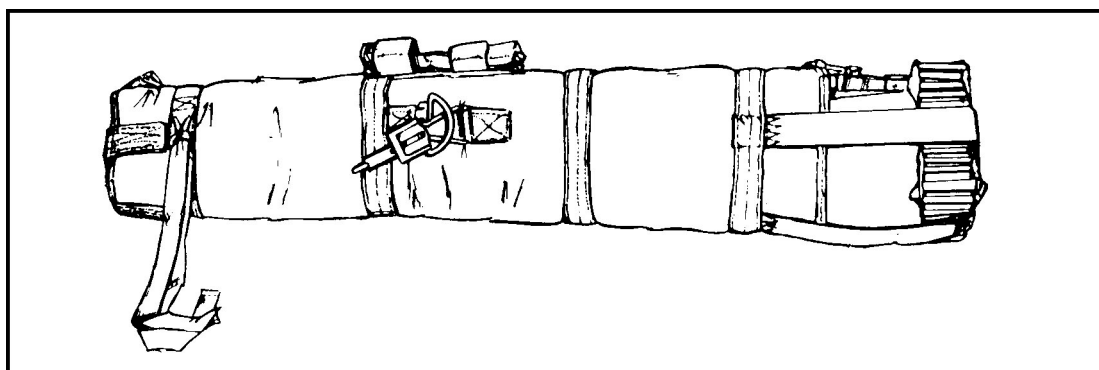

Figure 12-52. Running ends secured.
- (3) Insert the cone-shaped end of the shock absorber into the launch tube aft end.
- (4) Position the 8-inch square honeycomb on the shock absorber flat surface. If not already done, thread the end of the securing strap through the launcher aft end securing strap keeper. Route the two aft end securing straps over the cardboard honeycomb through each quick-fit adapter and tighten, then thread the end through the adapter, forming a quick-release fold. Fold excess securing straps back under the corresponding quick-fit adapter (Figure 12-52).
- (5) Route the launcher forward end securing strap under the nonadjustable cross D-ring strap through the quick-fit adapter and tighten. Then thread the end through